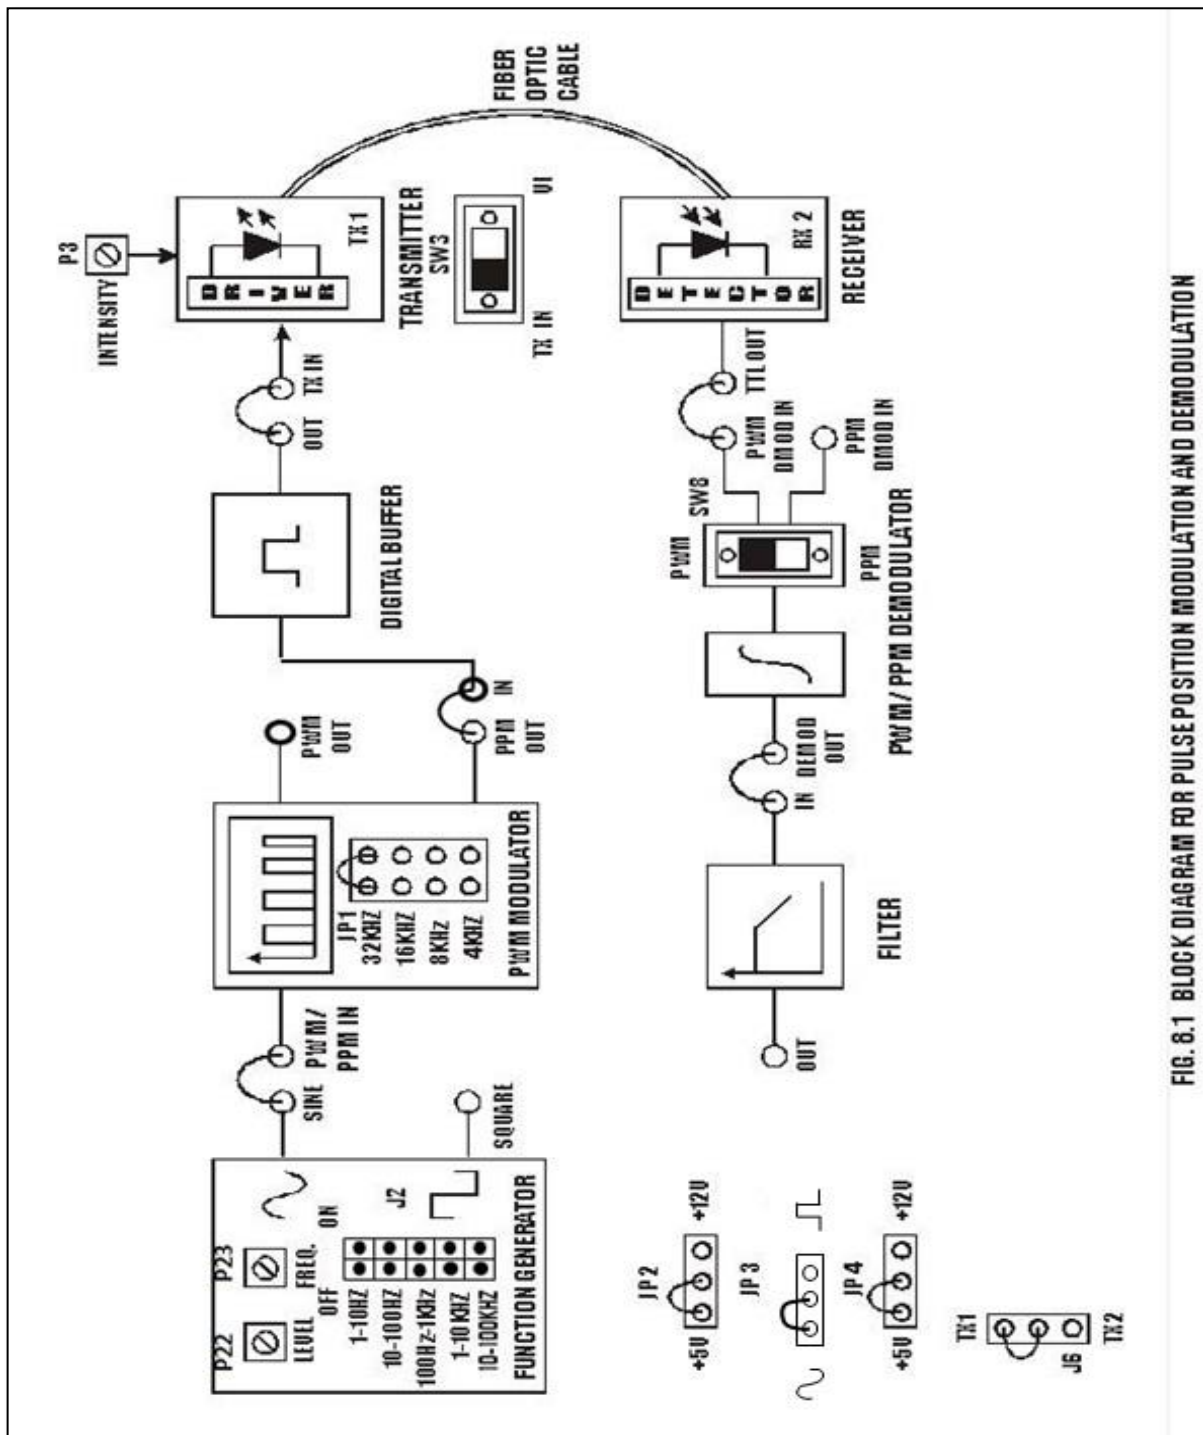

FIG. 8.1 BLOCK DIAGRAM FOR PULSE POSITION MODULATION AND DEMODULATION
- Make the connections and jumper settings as shown in **FIG. 8.1** Connect the power supply cables with proper polarity to kit. While connecting this, ensure that the power supply is OFF.